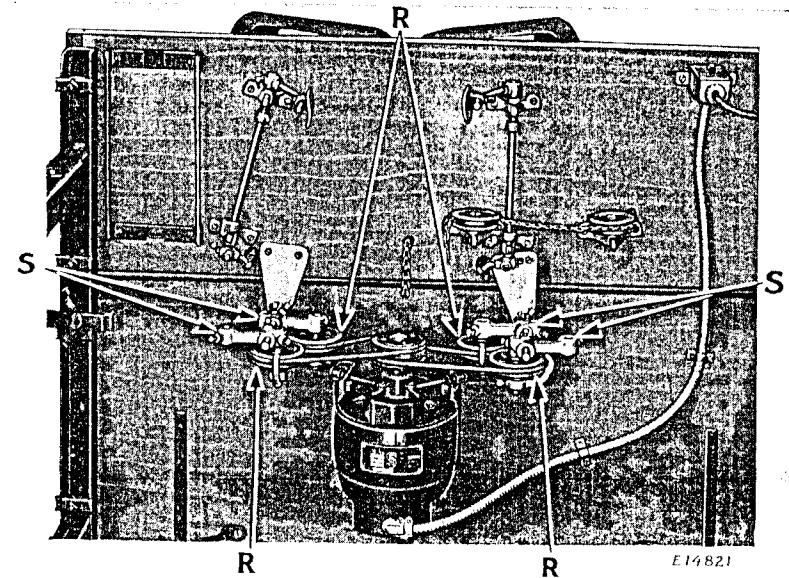

Fig. 4. Underside of Table, Showing Location of Idlers, Treadle Chain Guides and SINGER Electric Transmitter Motor for Class 71- Machines when Operated in Pairs
To install one motor for driving two machines run in pairs, the motor should be mounted directly below the center line between the two machines with the driving pulley towards the front of the table as illustrated in Fig. 4. The belt idler pulleys (R, Fig. 4) must be mounted on their arms (S) as illustrated in Fig. 4 and the chain pulleys mounted according to the blueprint furnished with the machine. When individual motors are used for each machine in pairs, there are no belt idlers used under the table and the motors are set directly below the machine pulley and on the same angles that each machine is set with respect to the table.